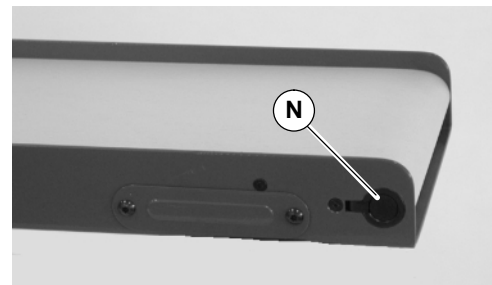

Figure 56
10. Install plastic plug (N of Figure 56).